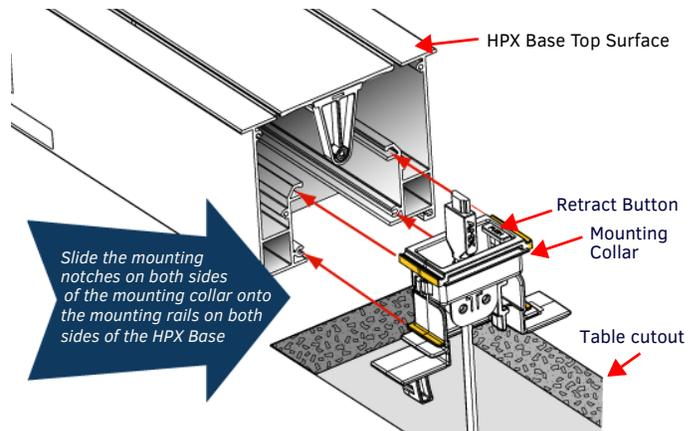

FIG. 5 RETRACTABLE CABLE MODULE - MOUNTING INTO AN HPX BASE ASSEMBLY
8. Feed the mounting collar up through the table cutout to reach the HPX base assembly (FIG. 5). Align the mounting notches on the mounting collar with the mounting rails on the HPX Base Assembly.